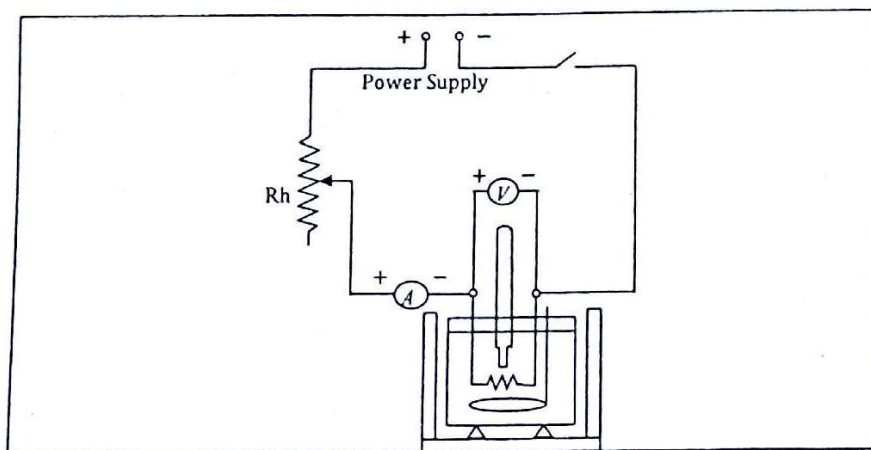

Fig. 7.1: Experimental setup for measuring the mechanical equivalent of heat
The mechanical equivalent of heat J is the amount of electrical energy required to generate one calorie of heat. If E volt be the potential difference across a conducting coil (Fig. 7.1) and i ampere be the current flowing through the coil for t seconds, then the electrical energy in the coil is Eit . If this energy is converted into heat H (calories) then the mechanical equivalent of heat J is
- Pour water into the calorimeter which is just sufficient to dip the heating coil and the bulb of the thermometer. Then measure the total mass (m_2) of the calorimeter, stirrer and water. Calculate the mass (M) of water.
- Complete the circuit as shown in Fig. 7.1. Switch on the circuit temporarily and adjust the control knob of the power supply until the current is about 2 amperes. Then switch off the circuit and stir the water until a steady temperature is shown by the thermometer. Record this temperature as initial temperature.